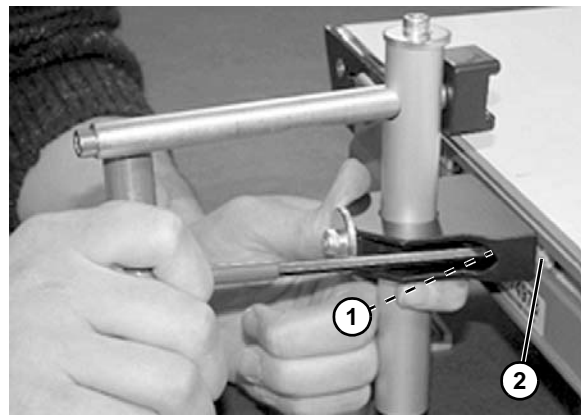

Figure 22
2. Tighten screws (Figure 22, item 1) making sure t-nut (Figure 22, item 2) rotates and engages inside of the t-slot.